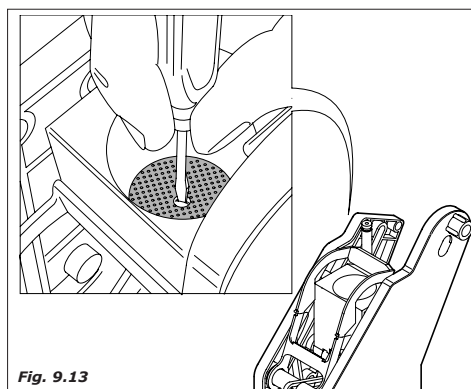

Fig. 9.13
- Loosen the screw (Fig. 9.13), wash the filter and replace if necessary.